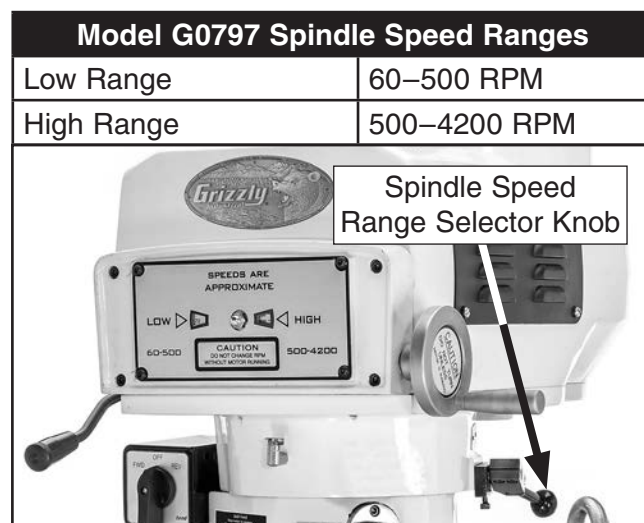

Figure 42. Model G0797 available spindle speeds and location of range selector knob.
- Make sure spindle is completely stopped, then use chart below to find spindle speed range that includes required spindle speed for your operation (see **Figure 42**).
- Pull spindle speed range selector knob (see **Figure 42**) out, move to HIGH or LOW position, then release knob to seat knob pin in detent.